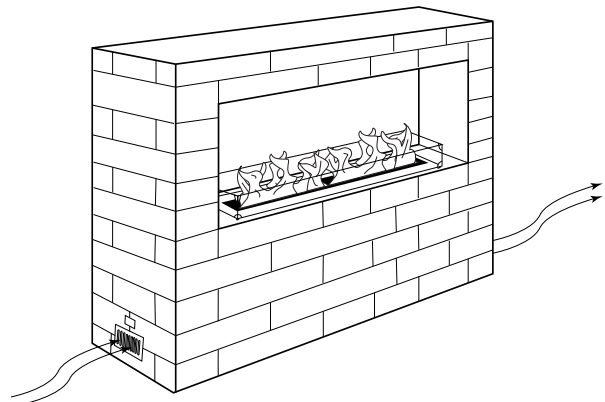

Fig. 3 - Cross ventilation example using the Cross Ventilation Kit, VENT-KIT-6x12, provided.
7. **CAUTION:** A minimum of 18 square inches of cross ventilation (per side) is required to keep the inside of the enclosure dry. Install the supplied VENT-KIT-6x12SS approximately 3 to 4 inches from the floor centered on each end of the fireplace (See Fig. 3, page 6).
Fireplaces are subjected to many outdoor elements such as rain, snow, wind, heat or cold. **A minimum of 18 square inches of cross ventilation (2 sides) is required to keep the components in good working order.** Use Fig. 3 as a guide.